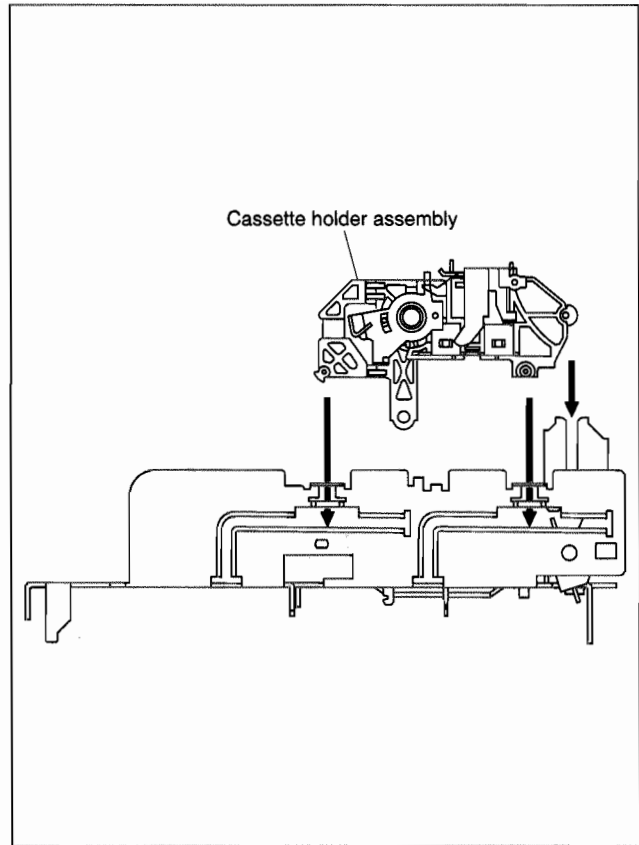
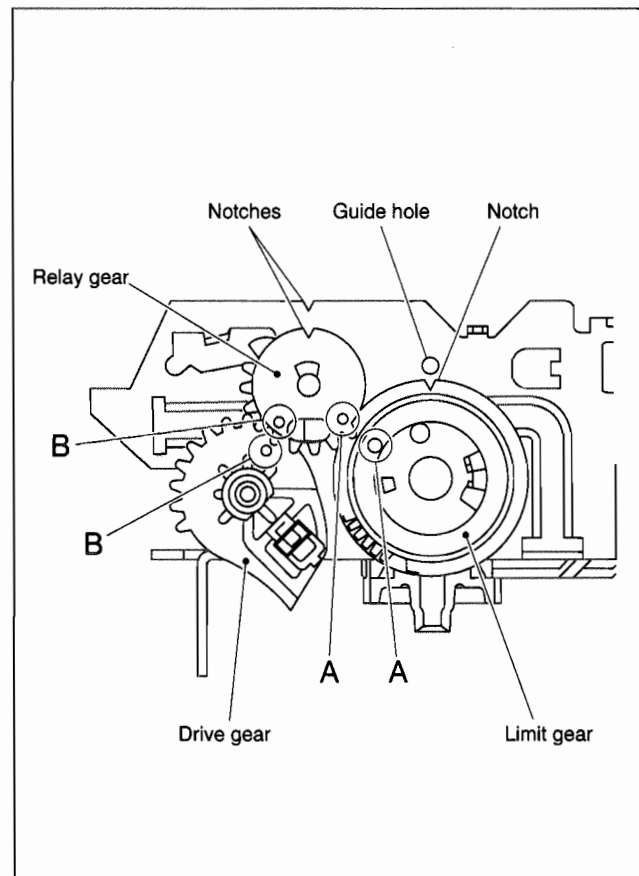

Fig. 2-2-9
Fig. 2-2-10
- (5) Drop the three legs on the left side of the cassette holder assembly into the groove at one time. (See Fig.2-2-9.)
- (6) Slide the whole cassette holder assembly toward the front to bring it to the eject end position.
- (7) Install the limit gear so that the notch on the outer circumference of the limit gear is brought into alignment with the guide hole on the main deck. (See Fig.2-2-10.)
- (8) Install so that the notch on the periphery of the relay gear is aligned with the notch of the main deck and that hole A of the relay gear is aligned with the hole A of the limit gear and that hole B of the relay gear is aligned with the hole B of the drive gear. (See Fig.2-2-10.)
- (9) Install the door opener, opener guide, spring(A) and cassette housing bracket and fasten the two slit washers.